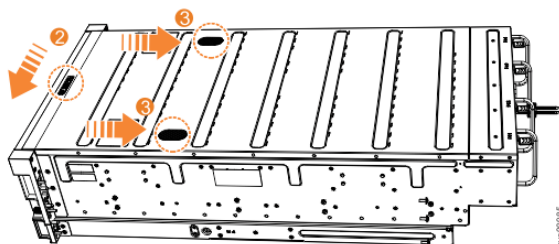

Figure 40. Replacing the top cover
2. Push the cover release lever to the side (2) as shown in Figure 40 on page 49.
3. Slide the cover towards the back of the enclosure (3) back until it stops, as shown in Figure 40 on page 49.